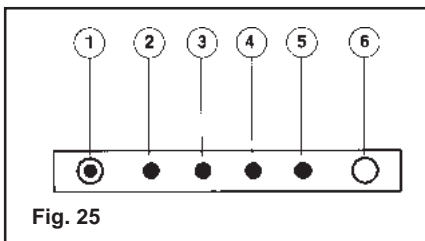

Fig. 25
- While the appliance is off use a pointed object to press the test microswitch which is to be found on the console (fig. 25) to the side the internal unit's delivery hole.